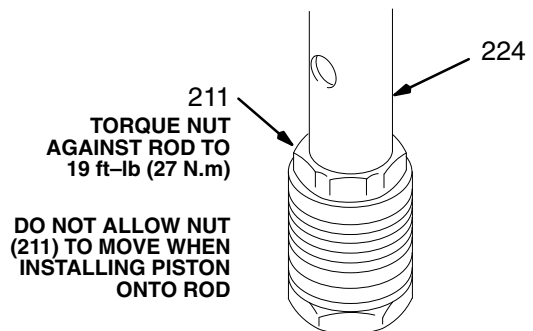

Fig. 28
7. Use a wrench to **CAREFULLY** tighten the nut (211) onto the piston rod to 19 ft-lbs (25 N.m). See Fig. 28.